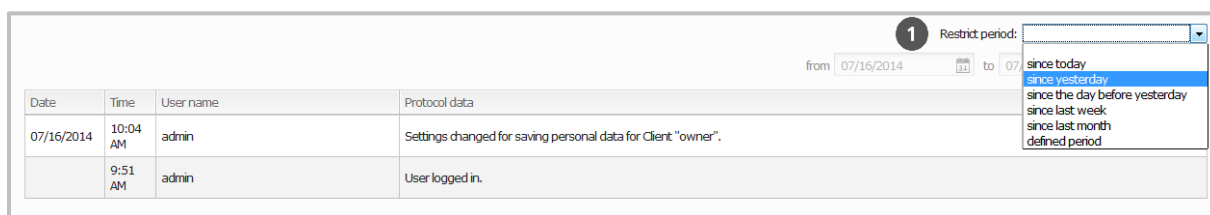

Figure 55: Filtering journal entries
Click the drop-down list in the **Filter** ❶ (Figure 55: Filtering journal entries) section and select the desired period to restrict the output. Click the last item in the drop-down list to activate the calendar function.